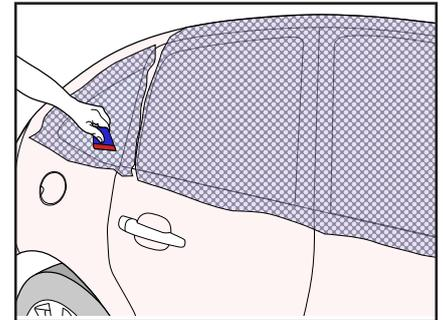

Figure 24
- › Stretch and apply the micro-perforated film over the entire pane up to its edges and in the corners. (FIG. 24)